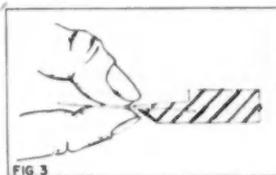

FIG 3
3. Push Lok-Pins half way into tileboard and at a slight angle with the surface (Fig. 3).